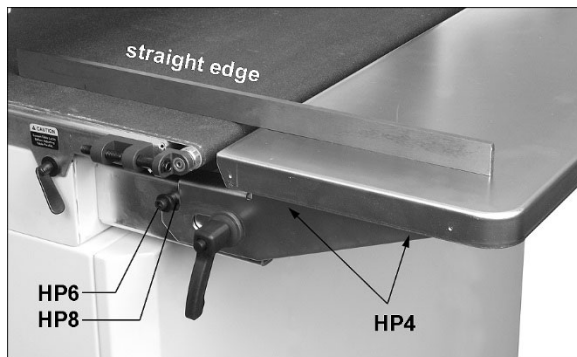

Figure 6-4: infeed table alignment
6. Place a straight-edge at one side of conveyor table under drum and extending out over infeed table. See Figure 6-4. You may wish to lower drum until it contacts the straight edge to hold it in place.